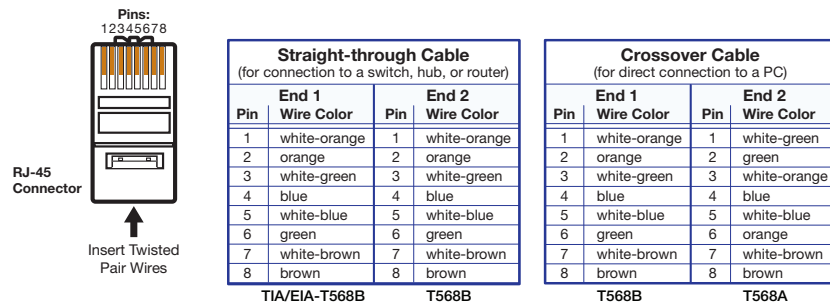

Figure 6. LAN Connector Wiring
- Use a crossover cable or a straight-through cable for connection directly to a PC. Wire the connector as shown in figure 6.